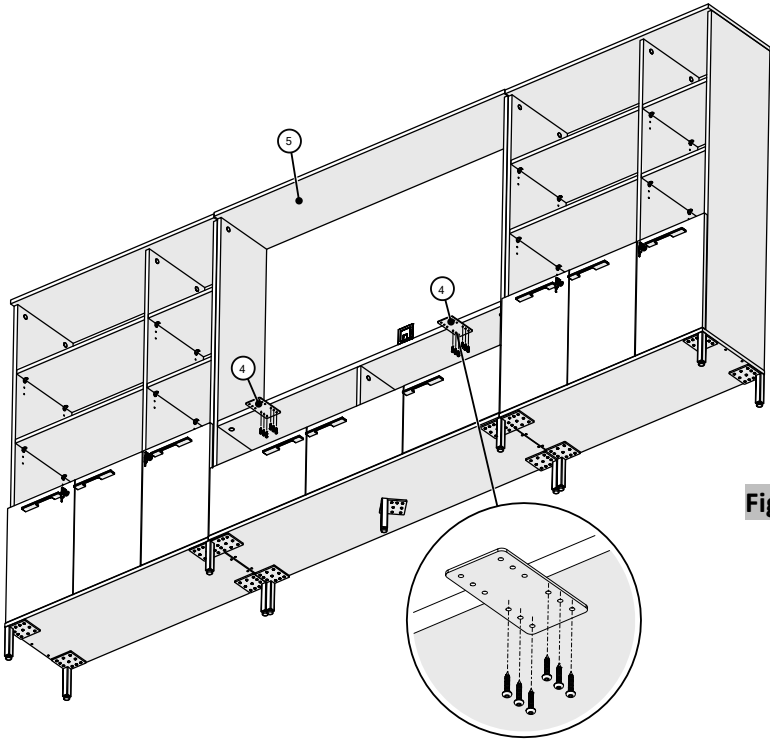

Figure 3
- Attach the Flush Plate to underneath the AV storage unit top fix shelf using (6) #10 x 1" Pan Head Screws, (Figure 3).